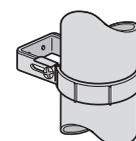

Fig. 9b 144 Bracket on pipe
Step 3 – Locate strap tongues inside backplate *(Fig.9b)*